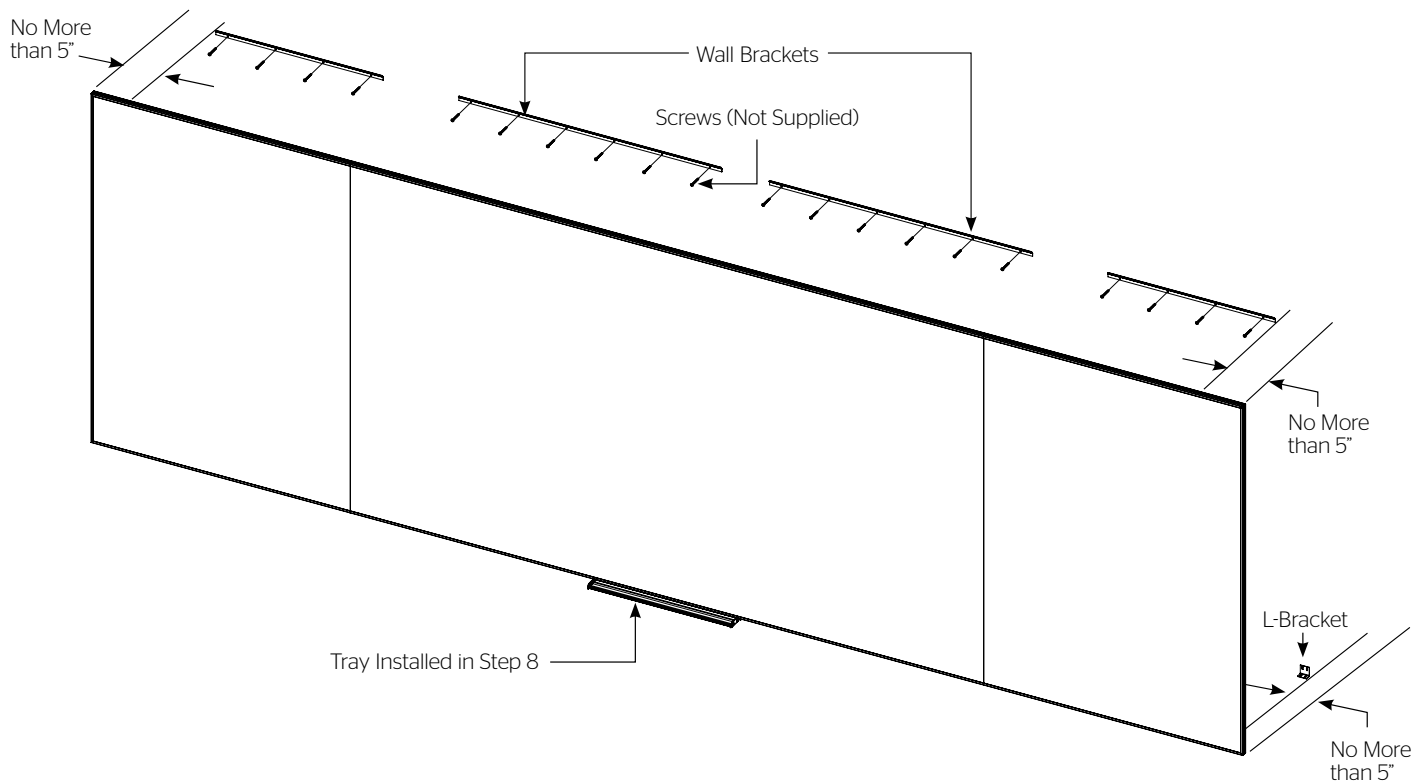

Figure 3
2. Secure the two side panel wall brackets to wall studs at the height selected in Step 1. Each side panel wall bracket should be centered between the seam brace and left or right outside edge of the frame when mounted to the wall (Figure 3).
3. To install the (2) center panel L-brackets, you must measure the overall height of the screen frame and subtract 1 1/8". Using that dimension, measure down from the top edge of each of the center wall brackets and mark the wall for two screw holes. The outside edge of each center panel L-bracket must be no greater than 5" away from the left or right panel seams (Figure 3).
4. Secure the two center panel L-brackets to the wall at the marked locations. The longest side of the two center panel L-brackets should be pointing upwards when secured in order to hide the L-brackets behind the screen frame once the screen is installed (Figure 3).